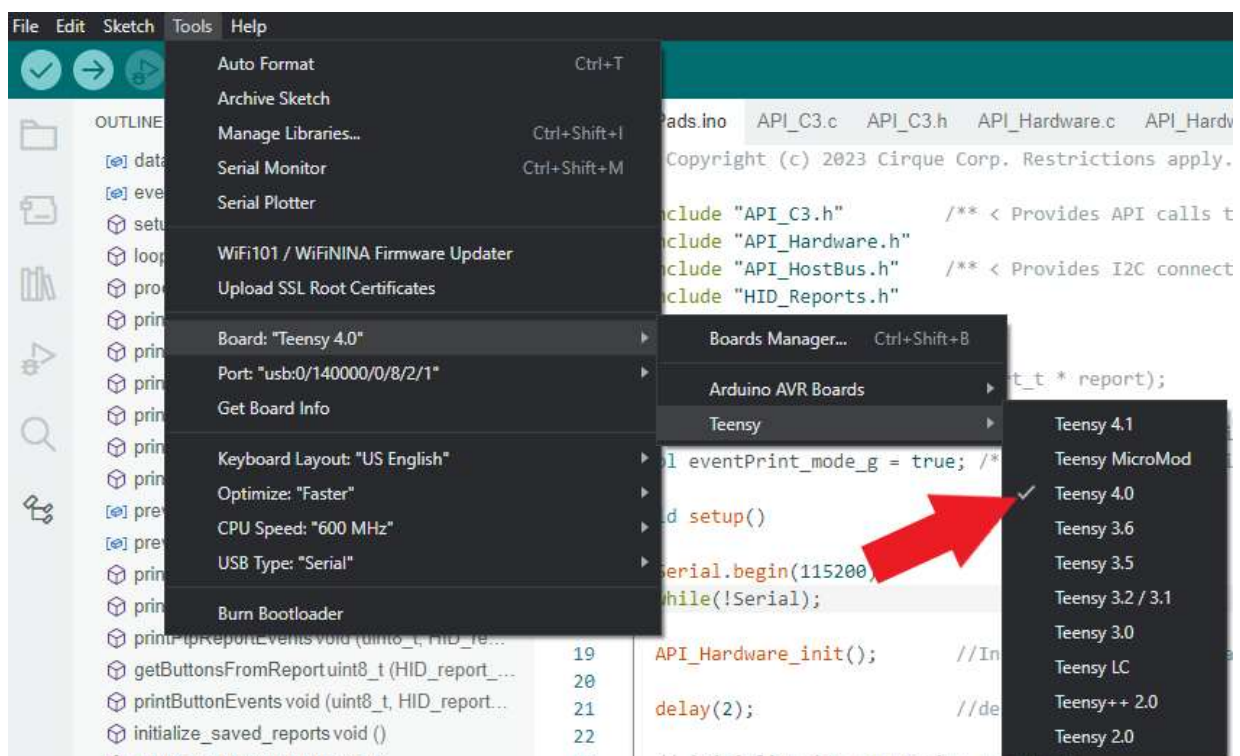

Figure 5: Select Teensy 4.0 as the target board.
4. Check to make sure that the Teensy 4.0 is selected under the “Tools > Boards” menu. (See Figure 5)